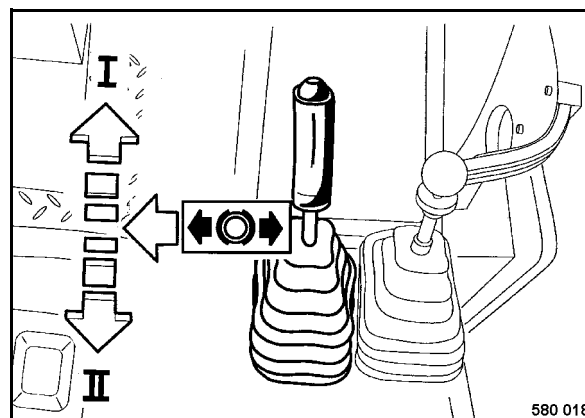

Fig. 110
- Unlock the travel lever (Fig. 110) by pushing it to the left, but do not actuate it to position "I" or "II".